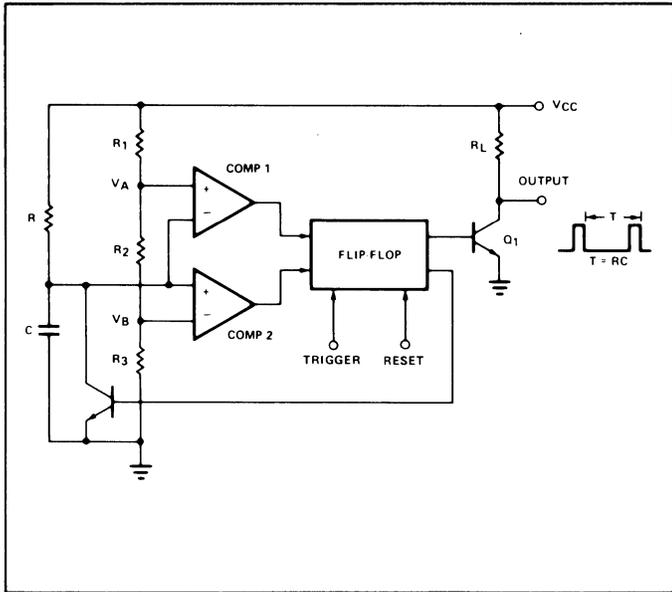

Figure 4. Simplified Schematic of a Time-Base Oscillator Circuit
**Time-Base Oscillator:** The time-base oscillator used in most of the timer/counter IC's is derived from the simple exponential-ramp type timer circuit. Figure 4 shows the simplified circuit diagram of such an oscillator. The timing components, R and C, are external to the chip. The operation of such an oscillator can be described as follows: when the circuit is at rest the flip-flop is latched in its reset state, and the transistor  $Q_1$  is "off", the external capacitor C is fully charged to a voltage approximately equal to  $V_{CC}$ . When the circuit is triggered, the flip-flop is unlatched and set, which causes the discharge transistor  $Q_1$  to turn "on" and discharge C rapidly. When the voltage across C discharges to the voltage level  $V_B$ , the comparator #2 changes state, resets the flip-flop and turns  $Q_1$  "off". Then, C charges toward  $V_{CC}$  with a time constant set by the external R and C. When the voltage across it reaches the upper threshold,  $V_A$ , comparator #1 changes state and sets the flip-flop again, and discharges C back to the lower threshold level,  $V_B$ . In this manner, the circuit continues to oscillate, with the voltage level across C exponentially rising to  $V_A$ , then rapidly decaying to  $V_B$ , and then repeating its cycle. The output of the circuit is a sequence of narrow pulses, with a repetition rate T, given as: